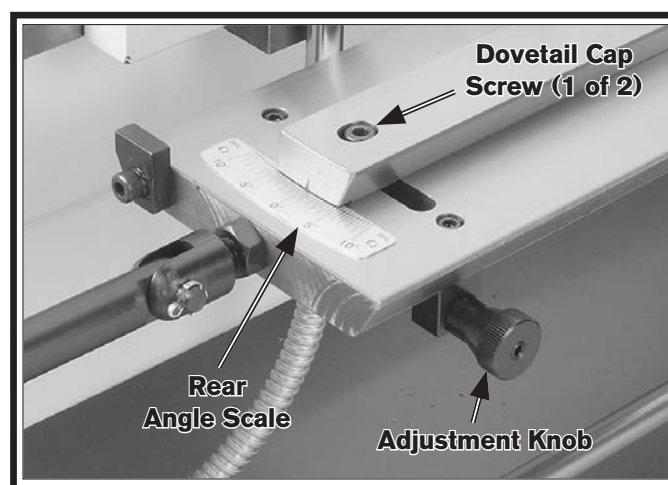

Figure 17. Taper adjustment knob and controls.
22. Loosen the dovetail cap screws at each end of the taper attachment body (see **Figure 17**).